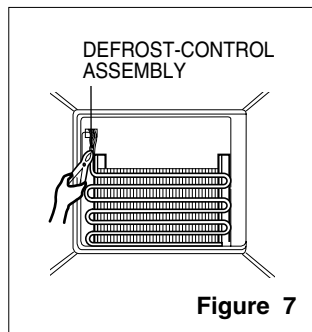

Figure 7
2. Separate the connector **with** Defrost Control assembly and replace the Defrost Control assembly after cutting the Tie Wrap. (Figure 7)